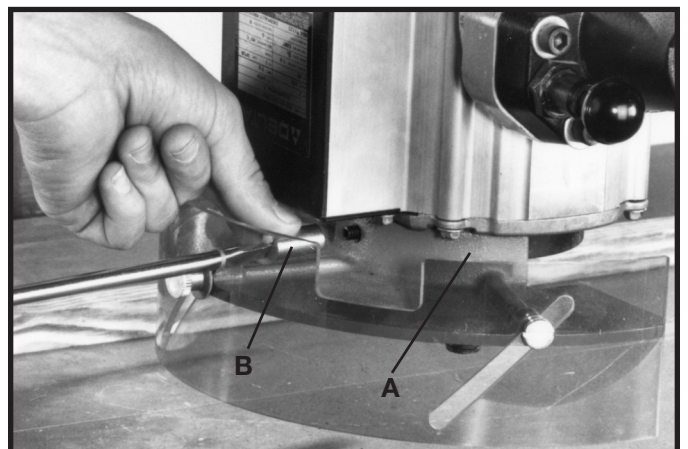

Fig. 60
2. Move motor so that the arbor is in the down position, as shown in Fig. 60.
3. Place guard (A) Fig. 60, on motor with stud on motor inserted through hole in guard. Thread special nut (B) on motor stud and fasten with screwdriver, as shown in Fig. 60.